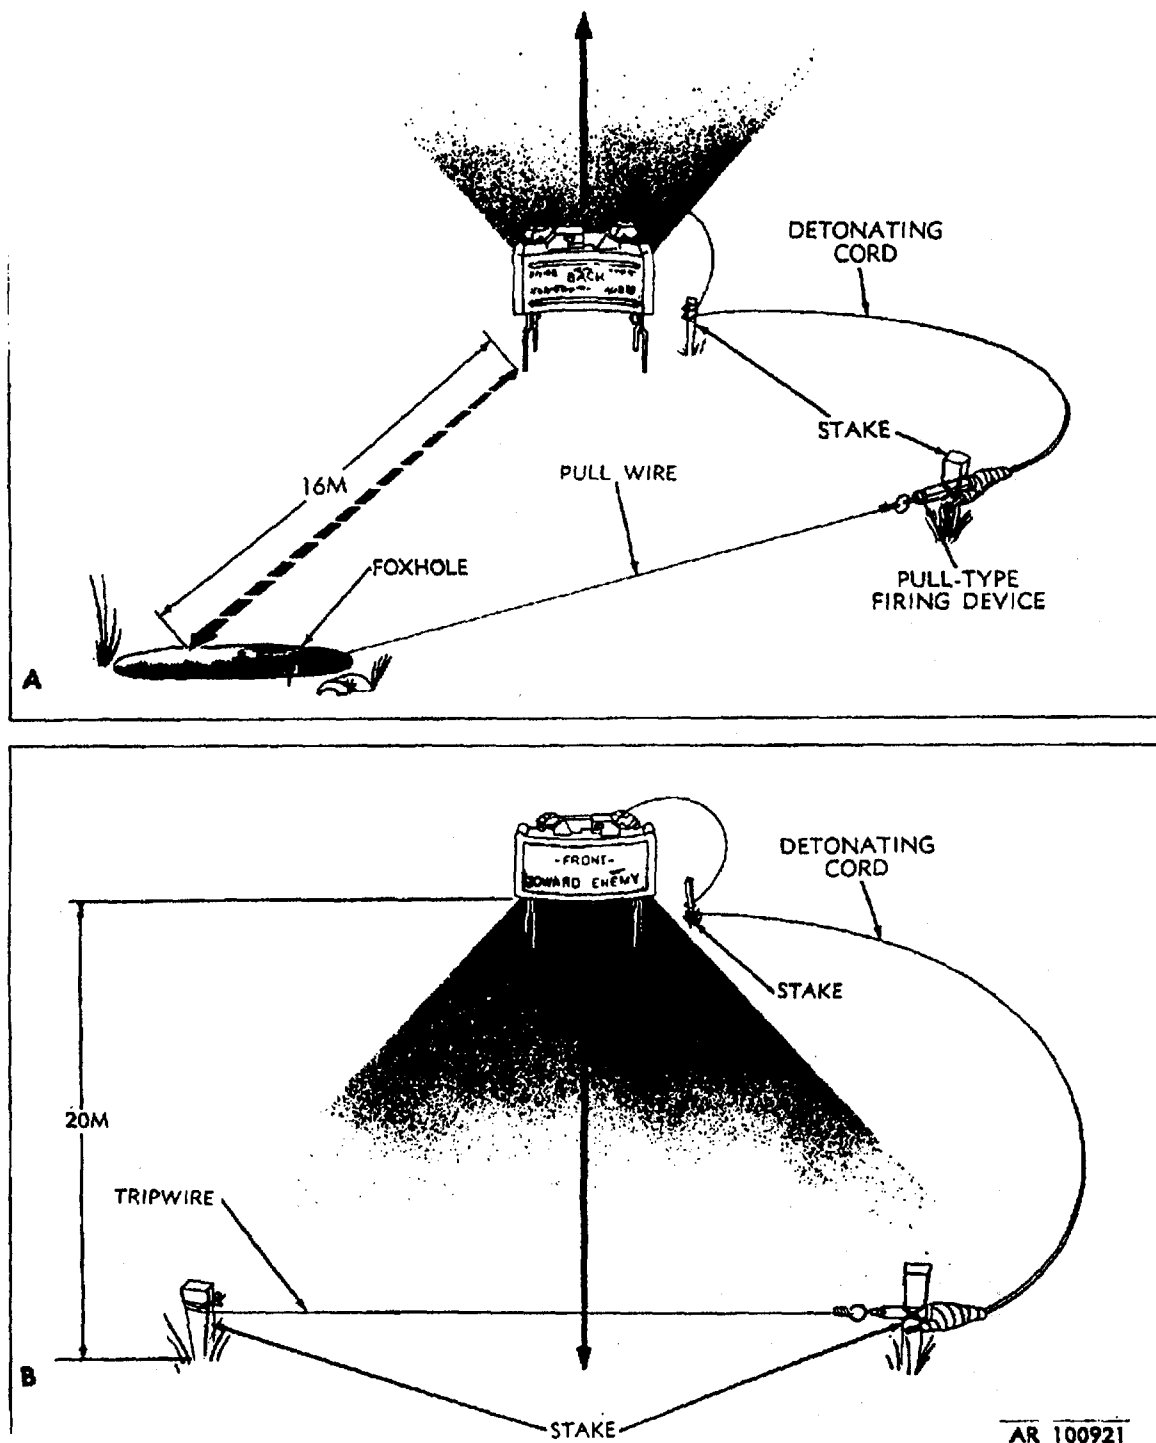

Figure 2-12. Mine M18A1 set up for nonelectric detonation.
- (4) For mines manufactured prior to 1972:
- (5) Mines manufactured after 1972 have rubber insulated spool wire extending into the blasting cap of the M4 assembly and no connector. These mines require a different arming procedure as follows:
- (6) Unwind remaining firing wire to firing position. If possible, bury firing wire to protect it from artillery fire and to prevent easy detection. Camouflage the mine. Examples of setup are shown in figure 2-12.
- (1) *For pull-wire initiation.*
- firing device ((b) above) by means of tape (fig. 2-12, view A).
- (d) Fasten firing device securely to a firmly emplaced stake (fig. 2-12, view A) by means of tape, wire, twine, or anchor cord.
- (i) Attach pull wire securely to pull ring of firing device. Pull wire should be of sufficient length to allow actuation of firing device from a protected position at least 16 meters rearward (minimum safe distance protected position) from emplaced mine (fig. 2-12, view A).
(c) Stretch tripwire across a trail or other avenue of approach, and securely attach firing device to two firmly emplaced stakes at a distance of approximately 20 meters forward of the mine (fig. 2-12, view B).
5. Emplace mine and detonating cord as instructed in e(1)(a) to (h) above, and as shown in figure 2-12.
6. Attach a pull-type firing device (refer to FM 5-25) to free end of each piece of detonating cord, and attach a pull wire or tripwire as instructed in e(1) or (2) above.